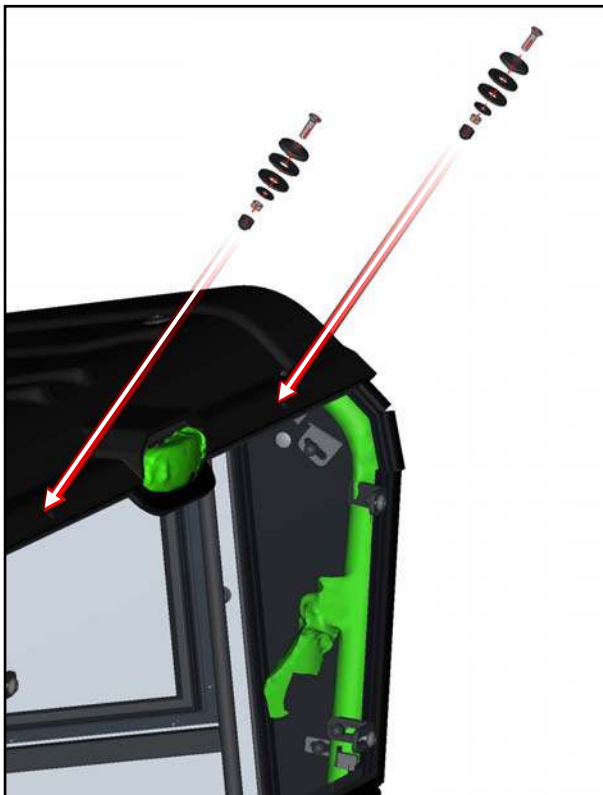

Fig. 5.6
5.6 Per fig. 5.6 (which shows the rear of the roof), install the 40mm long bolt, hard plastic washer, and one rubber washer from the outside as shown. On the inside will be one rubber washer (to protect the polycarbonate), one steel washer, and one locknut.